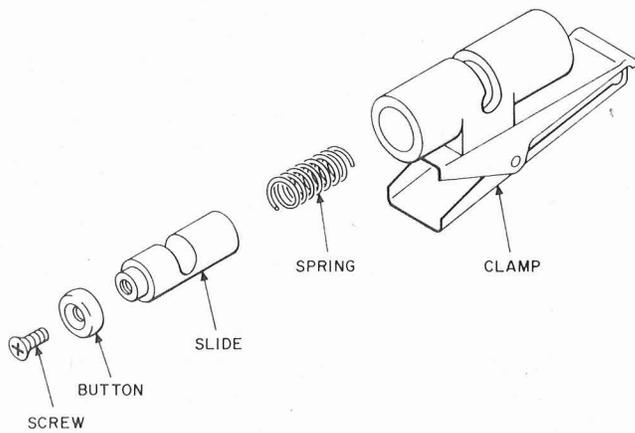

Fig. 7—Cable Clamps—Exploded View
5.05 Cable Clamp: The cable clamp may be slipped up and down the cord by squeezing the ends of the clamp together. To replace the cable clamp, remove the associated screw using a B screwdriver, size 1 and remove the cable clamp. Substitute the new cable clamp and install in the reverse order of removal. (See Fig. 7).